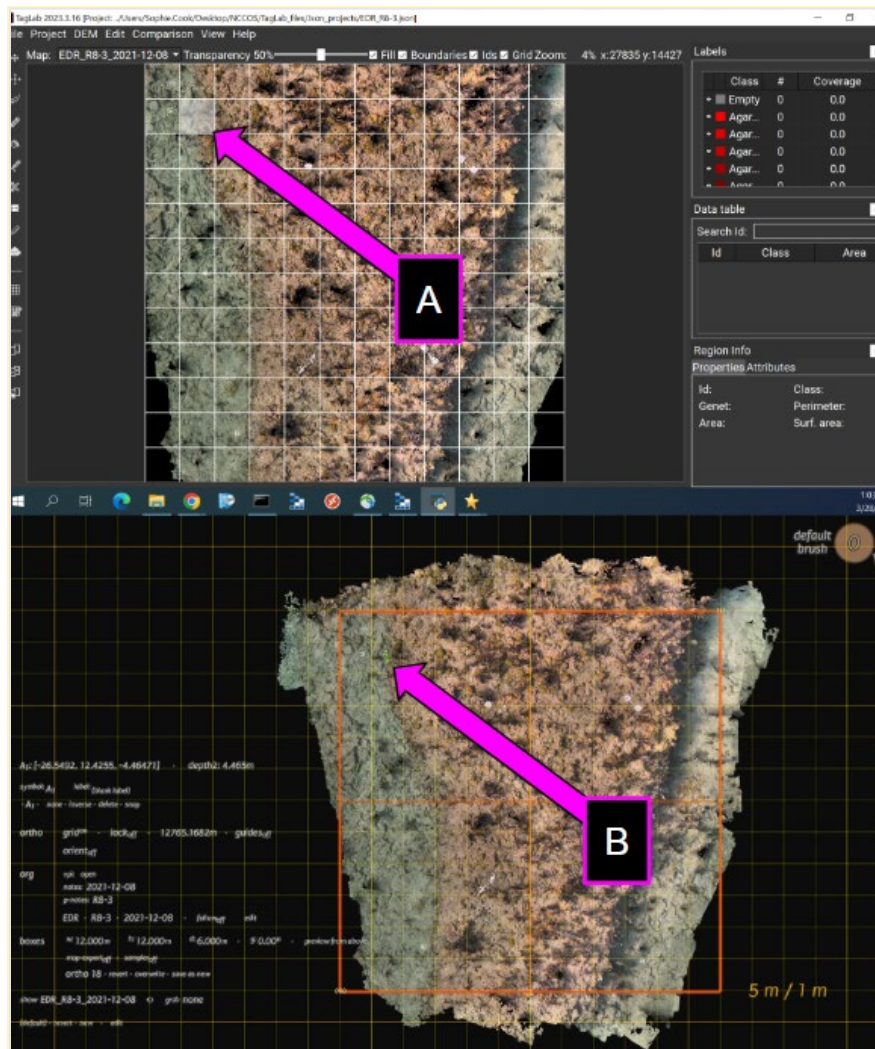

Figure 147. Example of split screen with (A) TagLab and (B) Viscore open on separate monitors. Pink arrows denote the same location shown in both software.
1. Open the TagLab project on one monitor and open the corresponding model in Viscore on a second monitor (Figure 147).